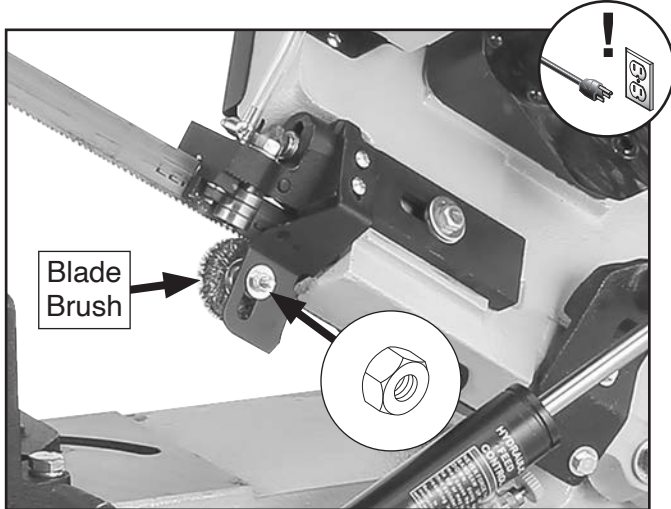

Figure 79. Location of blade brush and hex nut.
2. Loosen hex nut shown in **Figure 79**.
3. Position brush (see **Figure 79**) so blade extends $\frac{1}{8}$ " into bristles of brush, then tighten hex nut to secure.